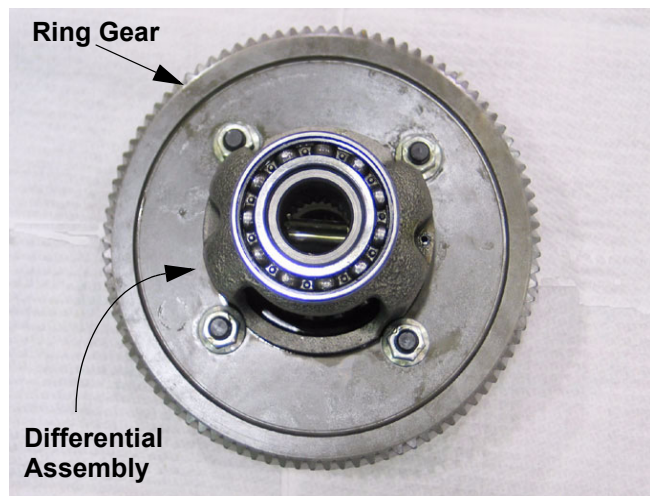

Figure 13.2
- 13.2. Remove the four bolts that hold the ring gear to the differential assembly using a pair of 9/16" wrenches. See Figure 13.2.